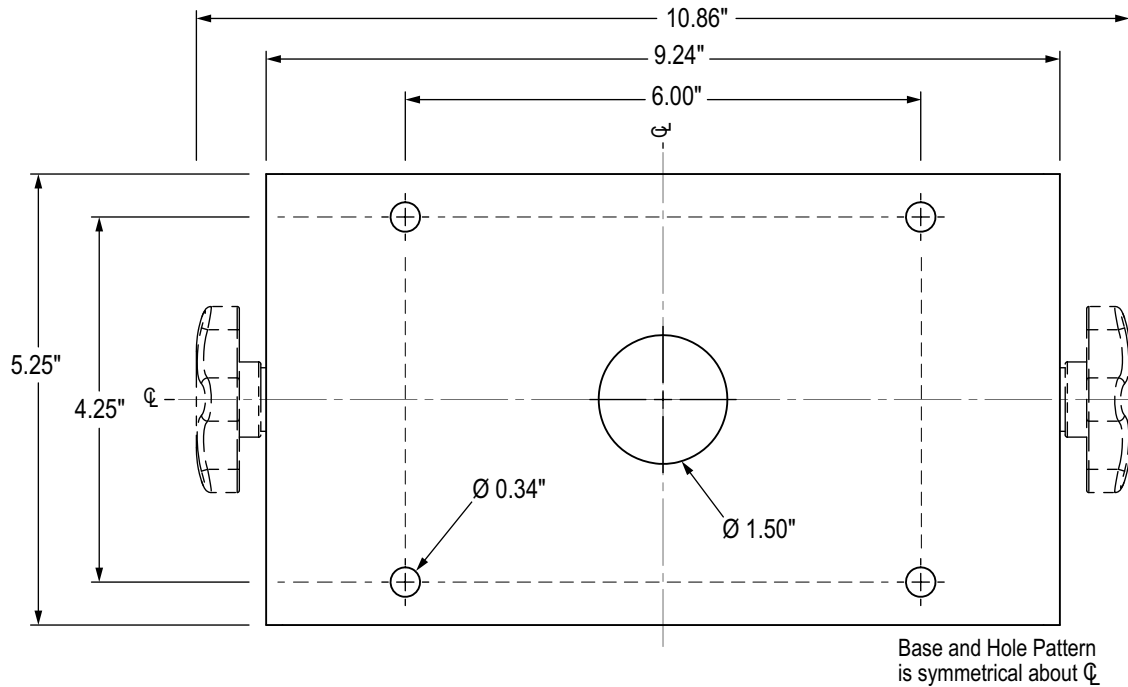

Figure 2-5. Universal Tilt Stand Hole Pattern Dimensions
1. Using the tilt stand as a template, mark the screw locations. See Figure 2-5 on page 17 for dimensions.